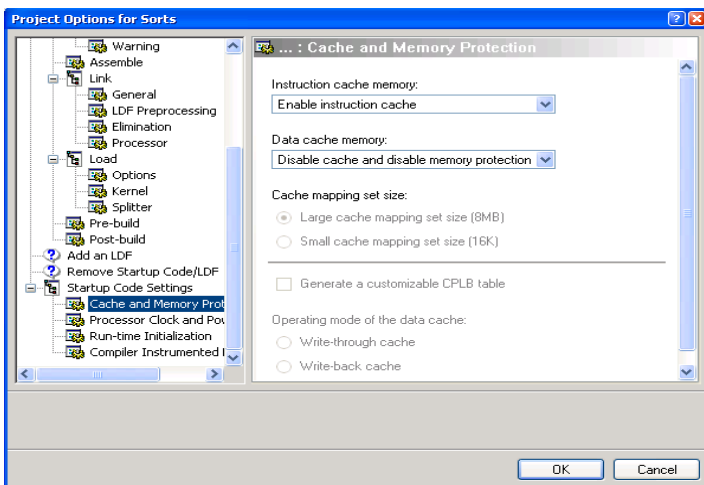

Figure 1-8. Cache and Memory Protection Page
2. In the **Project** tree control, locate the **Startup Code Settings** node. Click **Cache and Memory Protection** under **Startup Code Settings** (Figure 1-8).